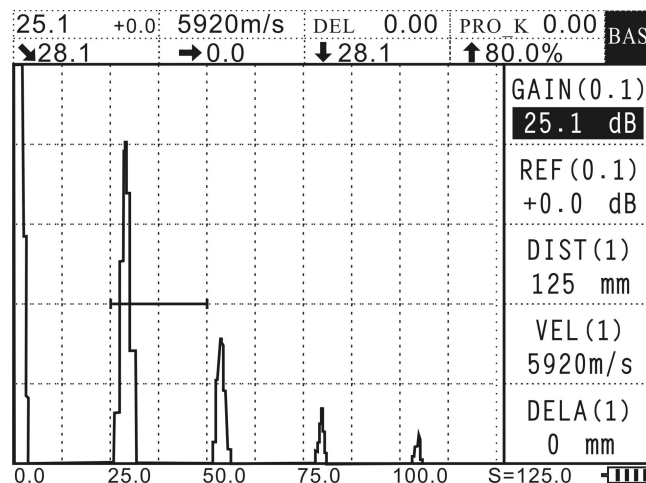

Figure 4-2
3. Put the straight beam probe on the test block and keep good coupling, at this point, five echoes appear on the screen, as shown in Figure 4-2.